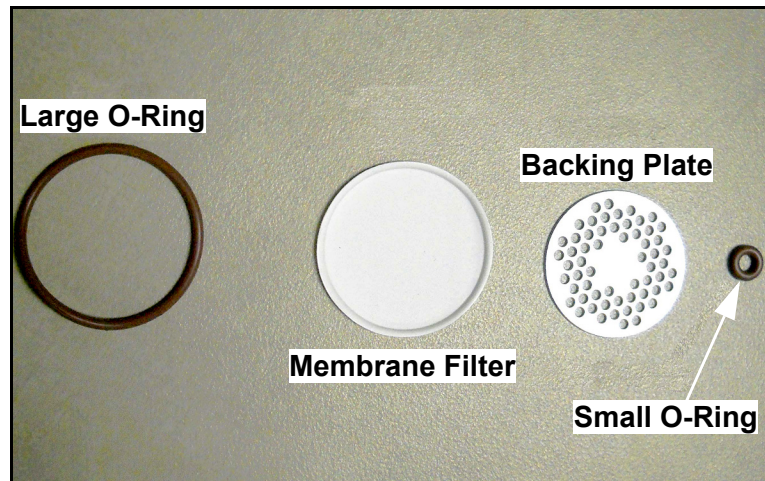

Figure 98: O-Rings, Membrane Filter and Backing Plate Removed
7. Using a tissue, clean the filter components (see *Figure 98* below).